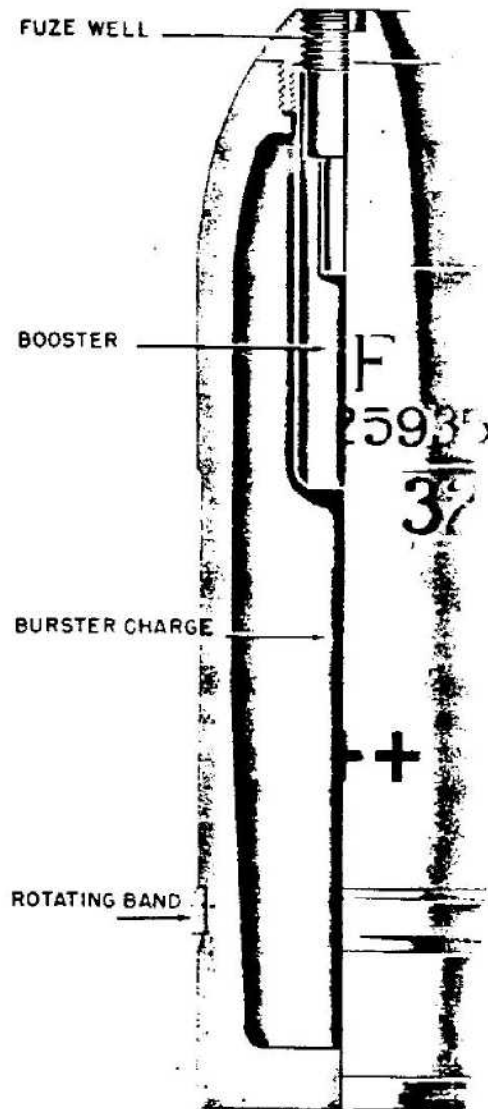

Figure 407—H. E. Projectile, 75-mm, 7.5-cm. Sprgr. 230/1 (f) (French 1900)
**GERMAN NOMENCLATURE:** 7.5-cm Sprgr. 230/1 (f) (French 1900). (See fig. 407.)